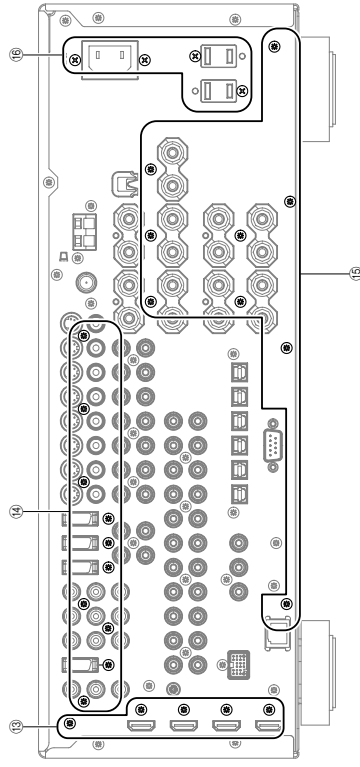

Fig. 5
- Remove 5 screws (⑬). (Fig. 5)
- Remove 6 screws (⑭). (Fig. 5)
- ⑬のネジ5本を外します。(Fig. 5)
- ⑭のネジ10本を外します。(Fig. 5)
- a. Remove 10 (U, C, T, A, B, G, E models) / 13 (R, L models) screws (15) and 4 (U, C, R, T, A, B, G, E, L models) / 2 (K model) screws (16). (Fig. 5)
- a. 15のネジ9本、16のネジ4本を外します。(Fig. 5)